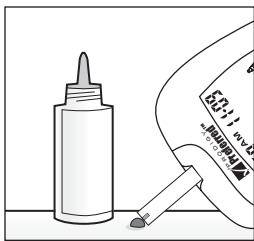

Figure 17
- Apply the drop to the opening of the absorbent channel of the test strip (where it meets the narrow channel) until the confirmation window is filled. *See Figure 17*
- The meter will beep and begin to count down. *See Figures 17 and 18.*